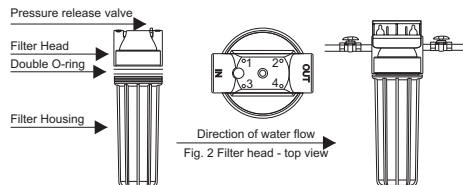

Fig.1 Accessories for FHPR-HP model
- Unscrew filter head from the filter housing (Fig. 1) using a wrench. To prevent damage, hold the wrench exactly in horizontal position relative to the filter housing.